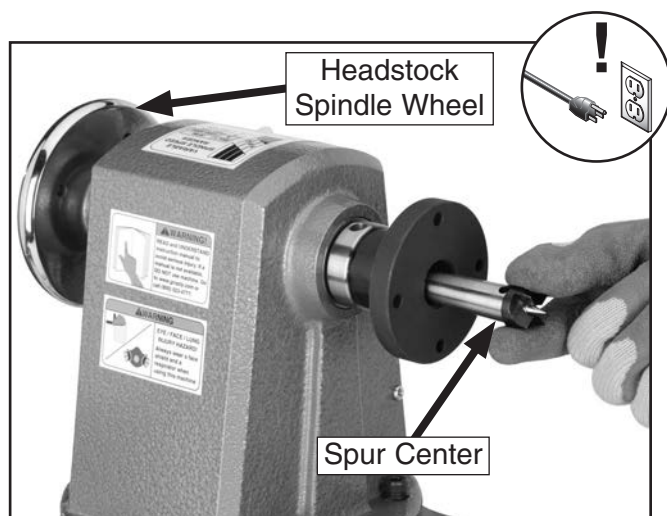

Figure 24. Inserting spur center into spindle.
2. Insert the tapered end of the center into the spindle, and push it in quickly and firmly (**Figure 24**).